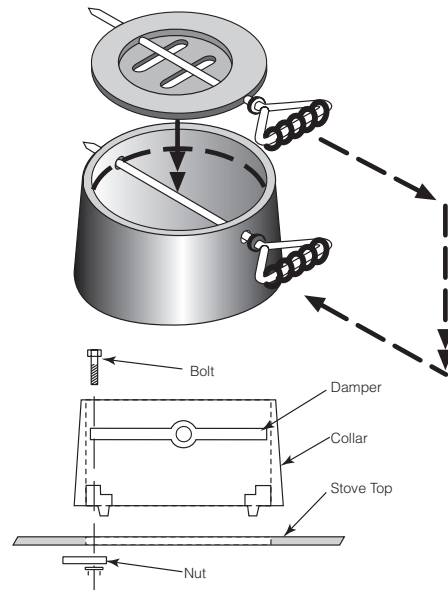

Fig. 6 – Cast Iron Damper
- Secure the collar to stove with bolts and nuts supplied (figure 6).
- Install damper into collar as shown in lower illustration (figure 6).